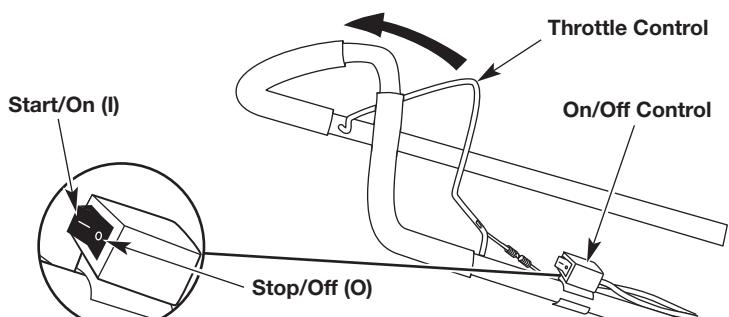

Fig. 4
- NOTE:** There is no need to turn the unit on. The On/Off Control is in the **ON (I)** position at all times (Fig. 4).
2. Press and hold the On/Off Control in the **OFF (O)** position until the unit comes to a complete stop (Fig. 4).